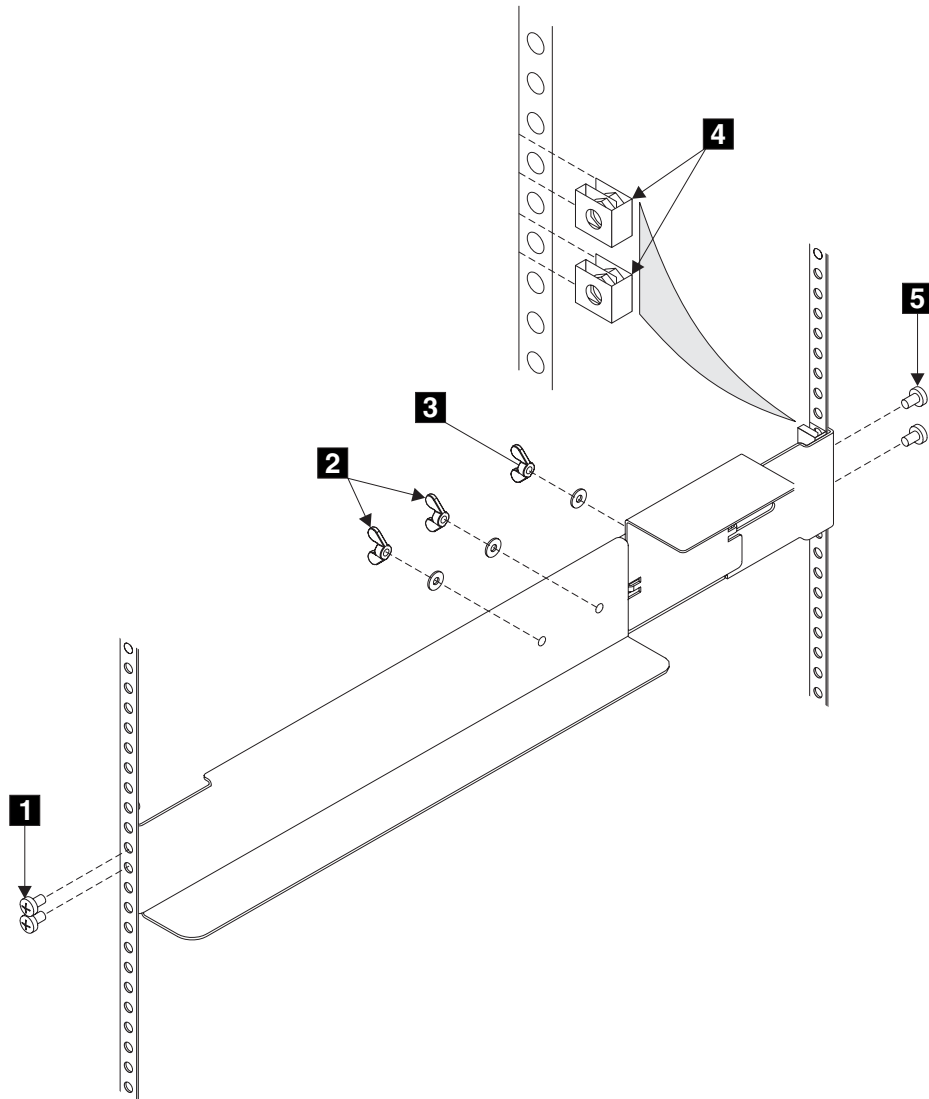

Figure 130. Removing support rails for a uninterruptible power supply from the rack
1. Refer to Figure 130 on page 212.